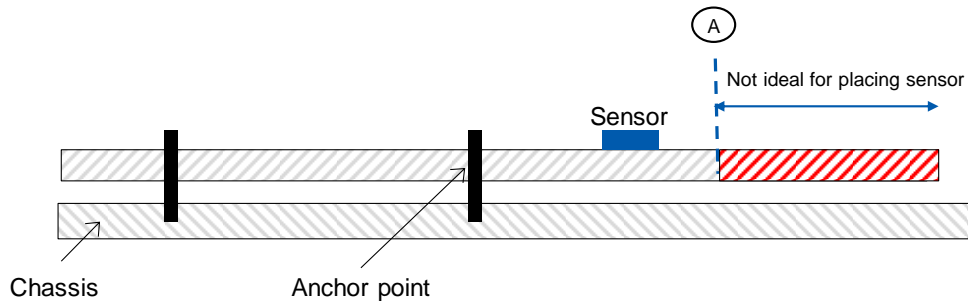
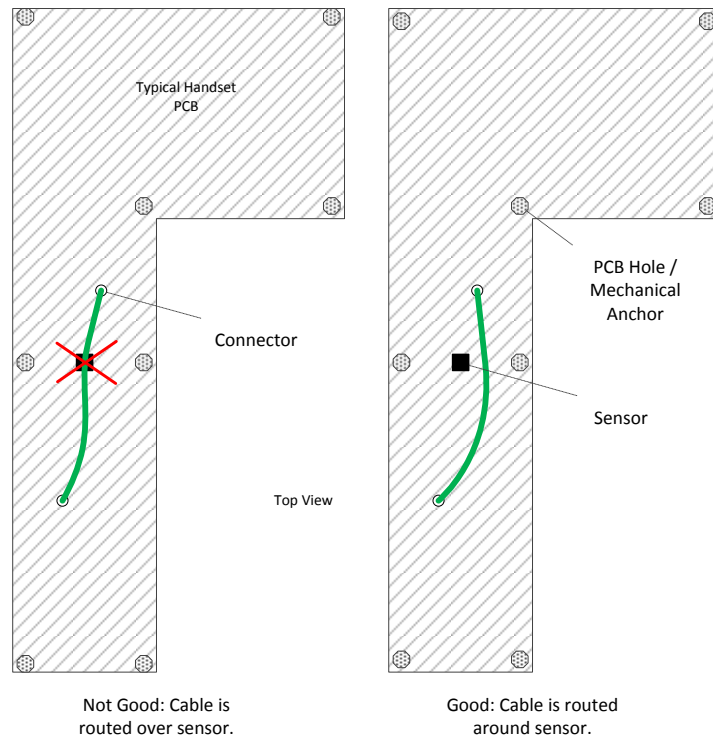

Figure 1 - Place Sensor in a Mechanically Stable Area of PCB
Figure 5 - Be Careful of Cable Routing
Recommendations (see Figure 1 through Figure 5):
- Place the sensor in a part of the PCB which is mechanically stable as shown in Figure 1. Keep distance from point A to reduce the diving board effect and any impacts on the sensor operation.
- Place the sensor away from mechanical connectors as depicted in Figure 5.